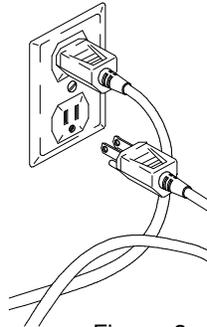

Figure 8
13. Plug the power unit(s) into a dedicated grounded electrical outlet(s). (Figure 8)